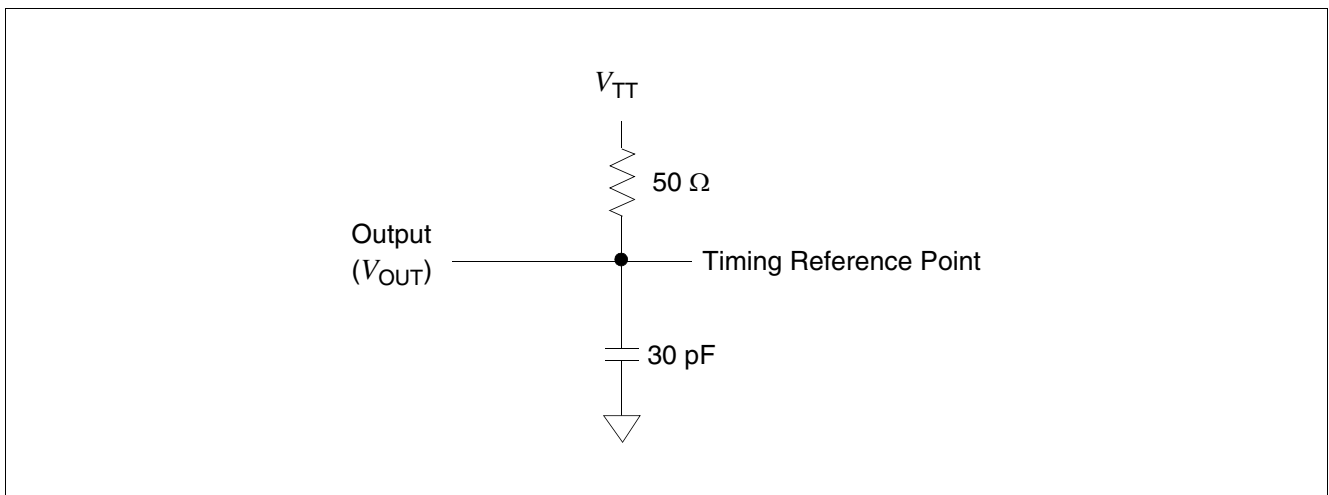

Figure 37 AC Output Load Circuit Diagram / Timing Reference Load
3. **Figure 37** represents the timing reference load used in defining the relevant timing parameters of the part. It is not intended to be either a precise representation of the typical system environment nor a depiction of the actual load presented by a production tester. System designers will use IBIS or other simulation tools to correlate the timing reference load to a system environment. Manufacturers will correlate to their production test conditions (generally a coaxial transmission line terminated at the tester electronics).